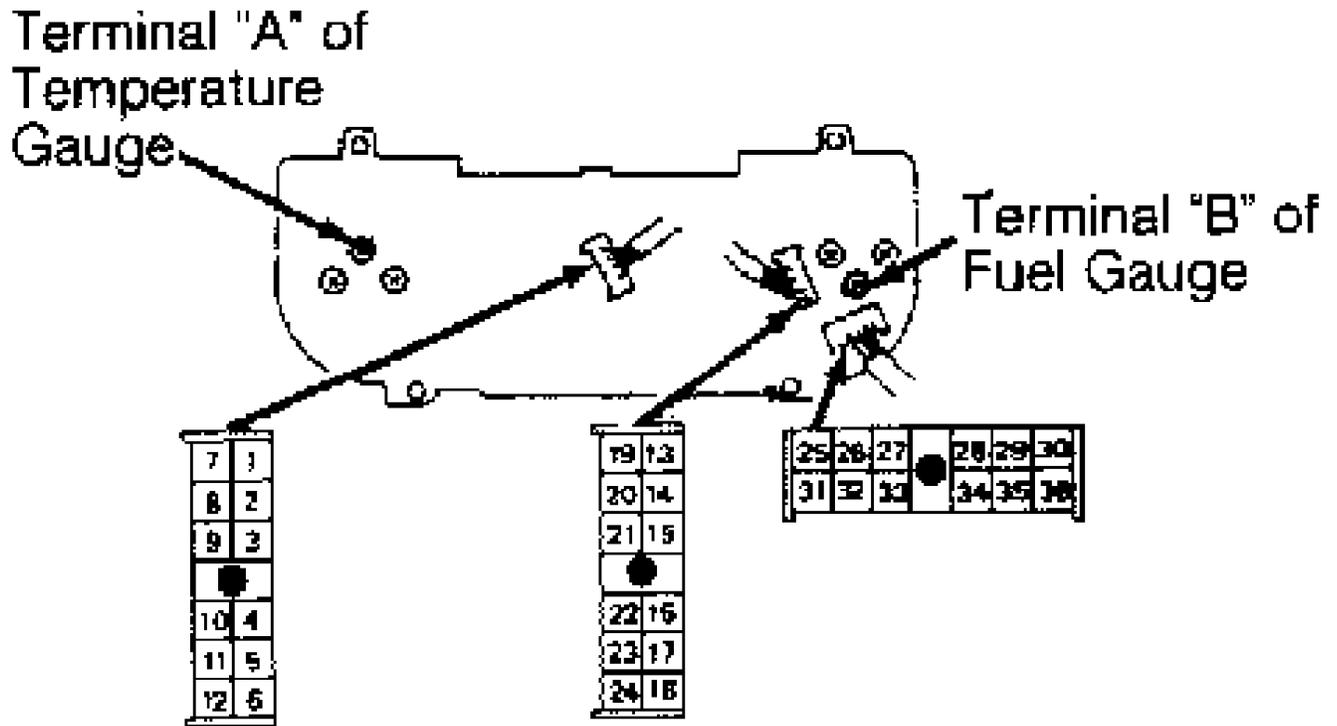

Fig. 19: Rear View Of Instrument Cluster (Q45)
1) To check power source, turn ignition on. Check voltage between terminal No. 1 and ground. See Fig. 19. If battery voltage is present, go to step 3).
6) Install speed sensor. Jack up one rear wheel. Turn ignition on. Turn rear wheel by hand and measure voltage between terminal No. 6 and ground. See Fig. 19. Voltage should change between ZERO volt and approximately .5 volt. If voltage reading is correct, replace speedometer.